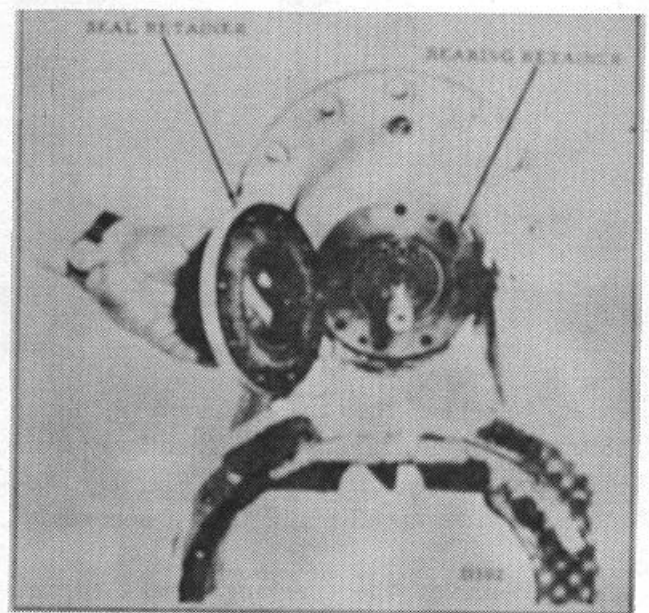

Figure 20.
11. Remove the seal retainer. (Fig. 20) Note thickness of shim set. Pull bearing retainer out of the case. Note thickness of shim set.